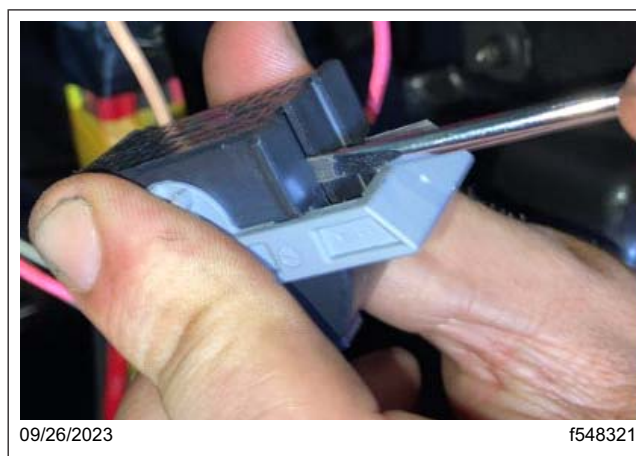

Fig. 53, Pushing Out the Gray Terminal Bank
- 13.10 Once the gray terminal bank has cleared the locking tab, use the screwdriver on the opposite end and push the rest of the way out of the X2 connector. See Fig. 53.